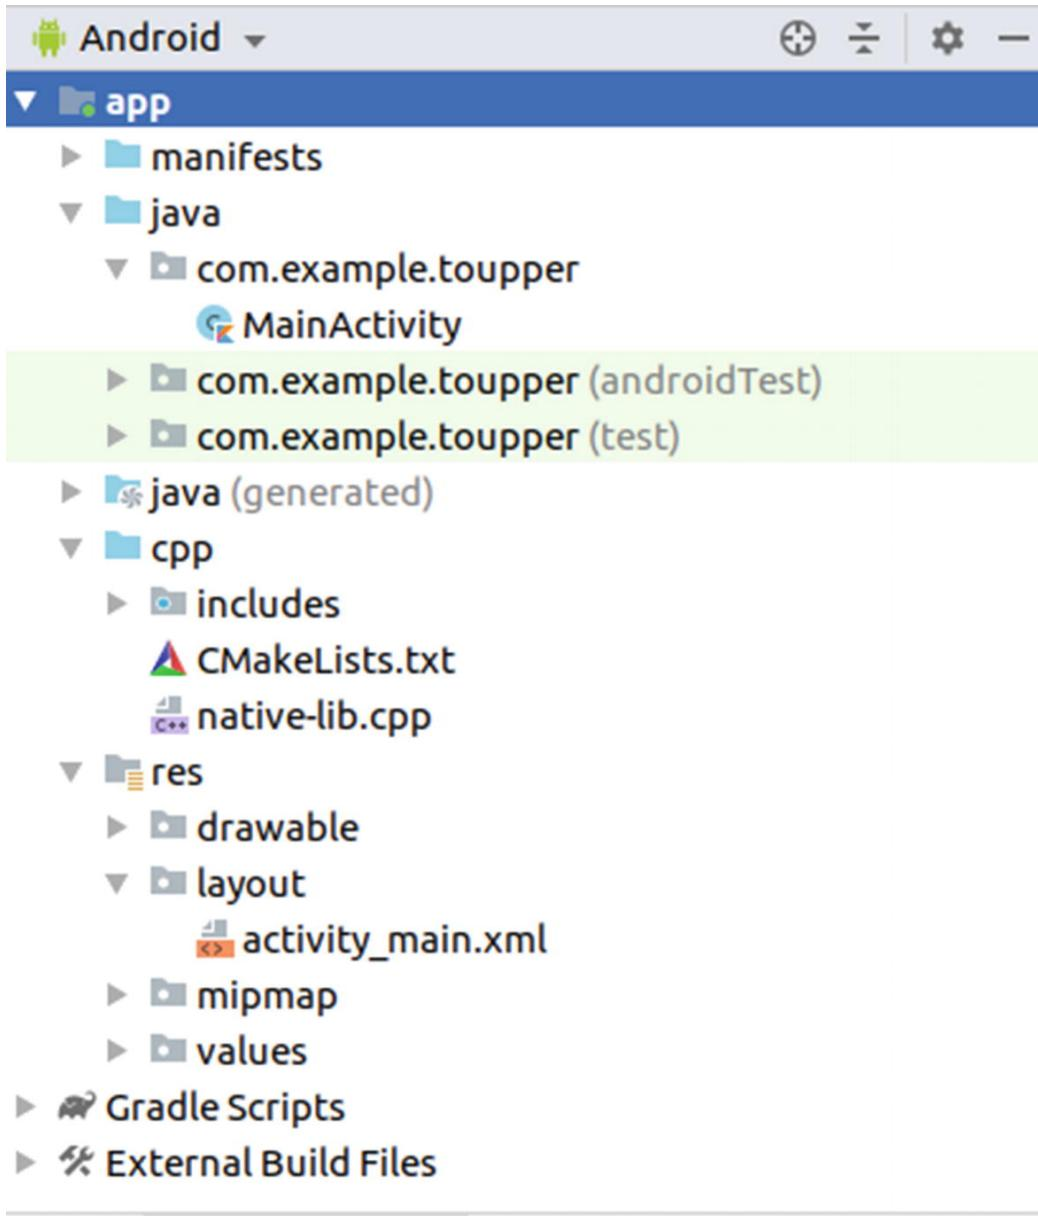

Figure 10-3 Some of the files created by the wizard
4. Click the “Next” button and accept the defaults on the third screen by clicking “Finish.” This creates an Android application with the main code generated in Kotlin and a single view as the UI. The project contains a C++ file which returns a hard-coded string to display in the UI. We can now build and run our app to ensure everything is installed and working correctly. Figure 10-3 shows the important files that were created.